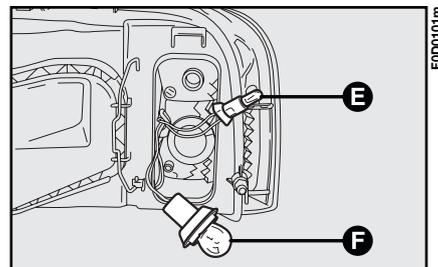

fig. 17
4) remove the bulb **E-fig. 17**;
- 4) remove the bulb **F**-fig. 17 pushing it slightly and turning it anticlockwise at the same time;